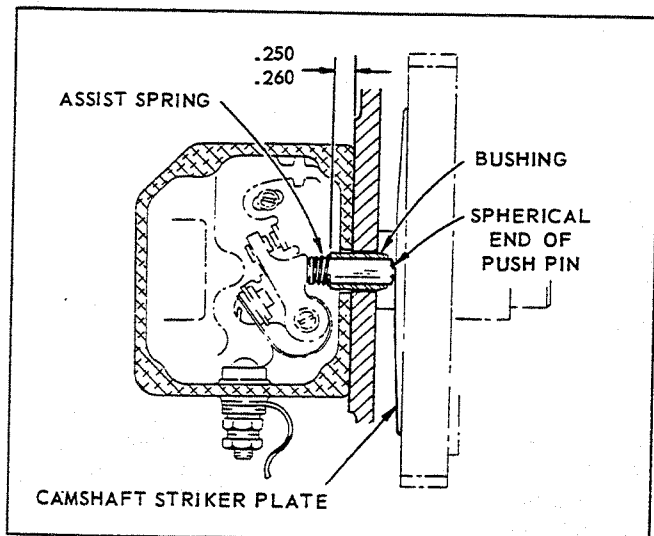

Fig. 44
#### BREAKER PUSH PIN and BUSHING (Fig. 44)
*Push pin* for breaker arm should be removed, inspected for wear and replaced if necessary. *In reassembly:* Mount *assist spring* under head of push pin and insert pin assembly into guide hole, with *spherical end* of pin toward camshaft striker plate, see Fig. 44.